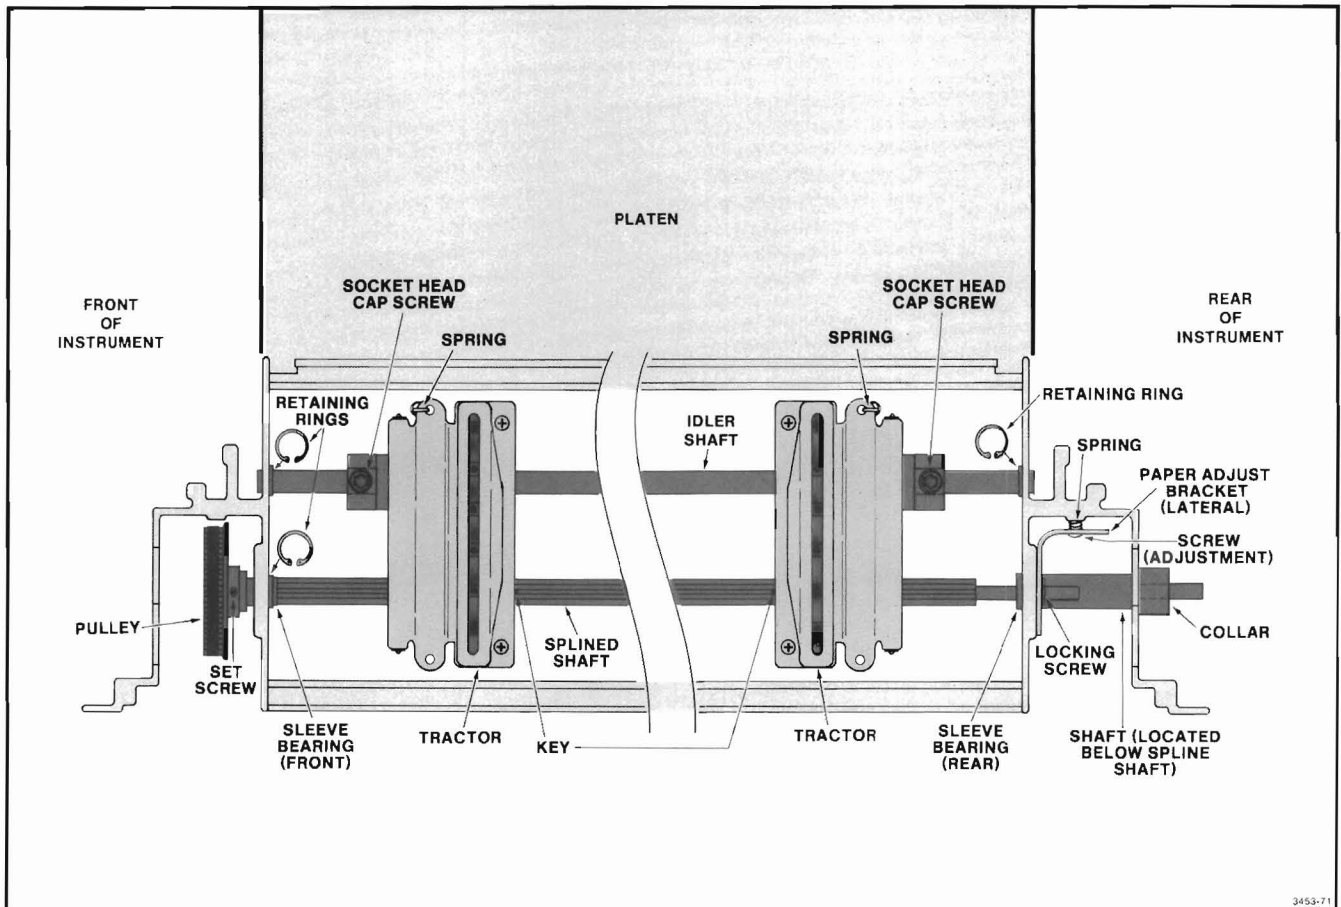

Figure A-9. Paper Drive Tractor Assembly.
1. Preassemble the paper drive tractors on the two shafts as shown in Figure A-9. The smooth "idler" shaft is located closest to the platen. The longer "turned" smooth end of the splined shaft points to the rear of the instrument.
Each tractor drive has a "key" and these keys should be in the same spline shaft groove. Also make sure that the tractors are "facing" each other as shown in Figure A-9.
4. Insert the two shafts into the front bearings. Push the splined shaft forward until it clears the rear bracket, then add the rear bearing (401-0409-01) to the rear of the splined shaft, with the grooved end pointing toward the rear of the unit. Center the smooth idler shaft and push the splined shaft forward as far as possible (the splines should touch the front sleeve bearing as shown in Figure A-9).